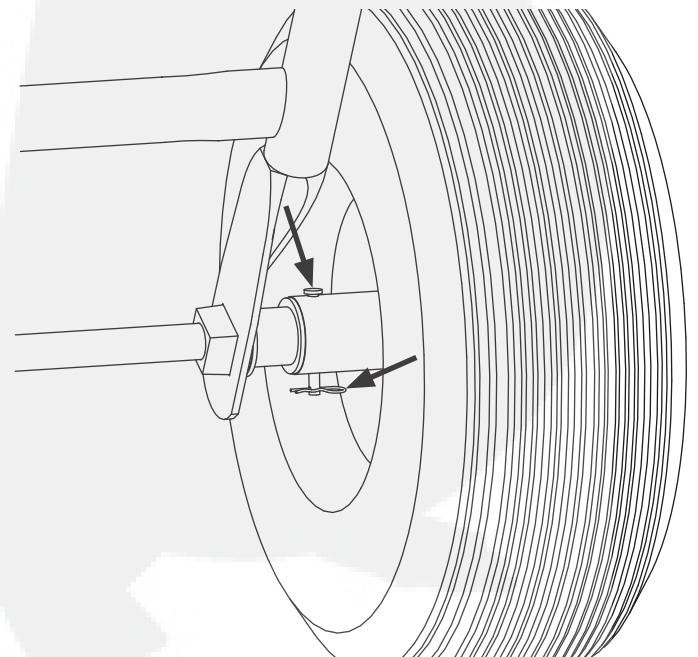

Figure 3
5. On the drive side of the axle, insert the small clevis pin through the holes in the wheel and axle, Figure 3. Install Small Cotter Pin.